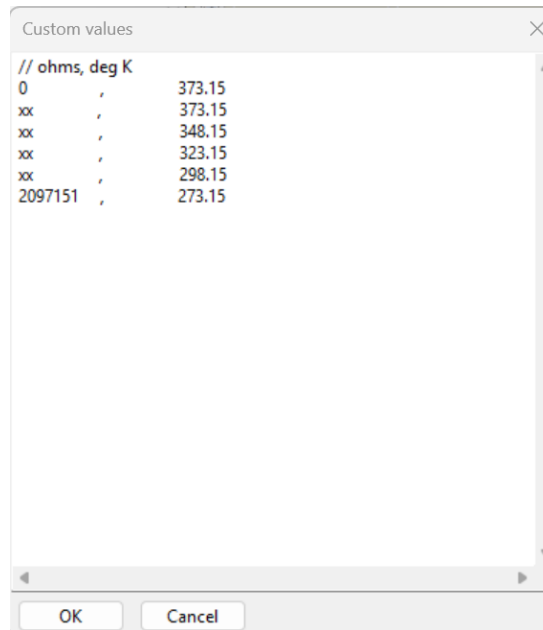

Figure 7. Leak Detector Custom Table
- Click the notepad icon next to **leak detector – custom values** and enter the ordered pairs obtained from the table shown in Figure 7.